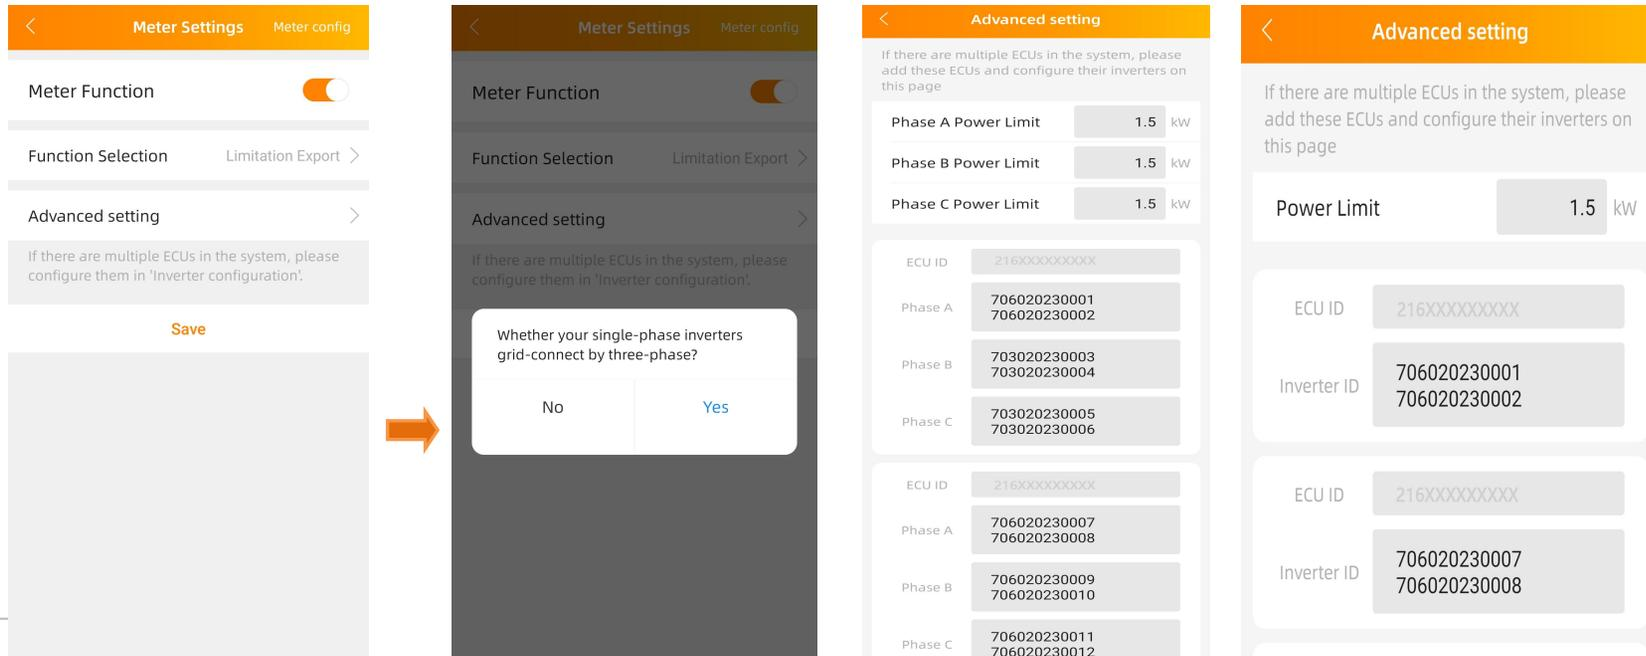

Figure 1
1. Figure 1 (click “yes”) — Apply to the single-phase inverters grid-connect by three-phase.